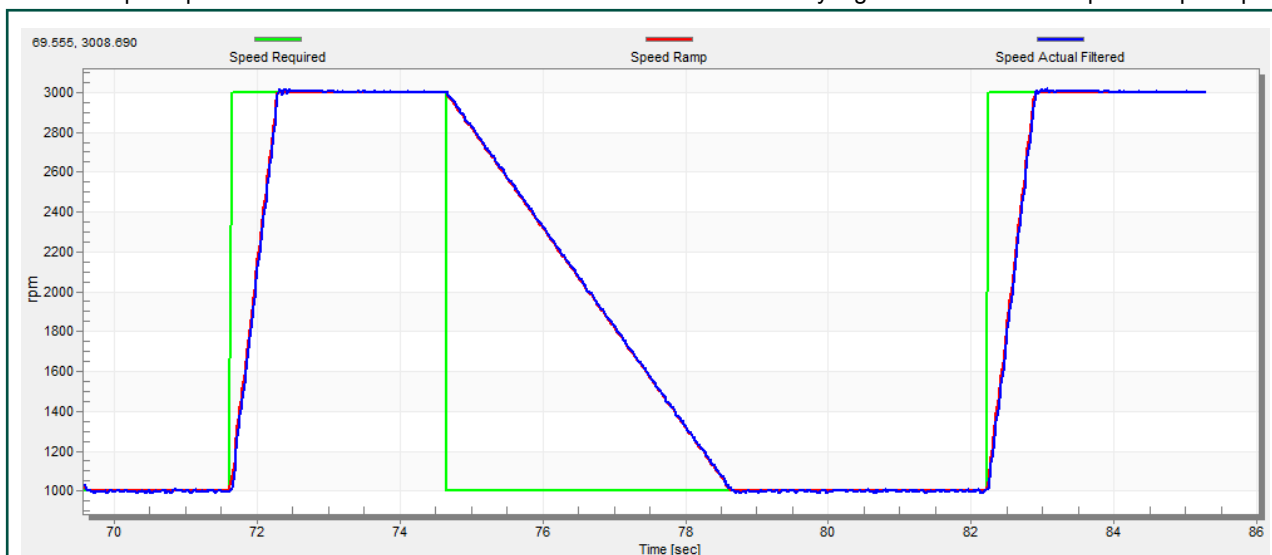

Figure 53. Speed profile
2. The increments are common for the scalar and speed control. The increment fields are in the “Speed & Pos” tab and accessible in both tuning modes. Clicking the “Update Target” button applies the changes to the MCU. An example speed profile is shown in Figure 53. The ramp increment down is set to 500 rpm/sec and the increment up is set to 3000 rpm/sec.